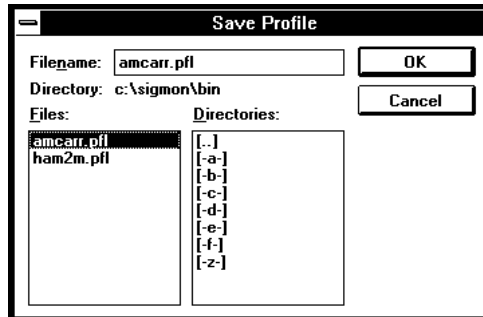

Figure 5-8: Typical Save Profile Dialog Box
2. From the **Profile Options** list select **Save...** to open the **Save Profile** dialog box (Figure 5-8).